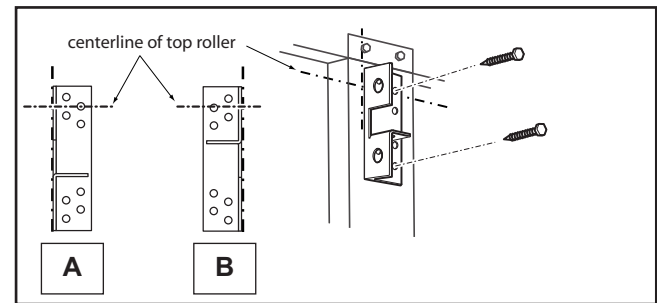

FIG. 2-8 Examples of door bracket positioning.
- Align door bracket centered on your vertical centerline (Fig. 2-8).